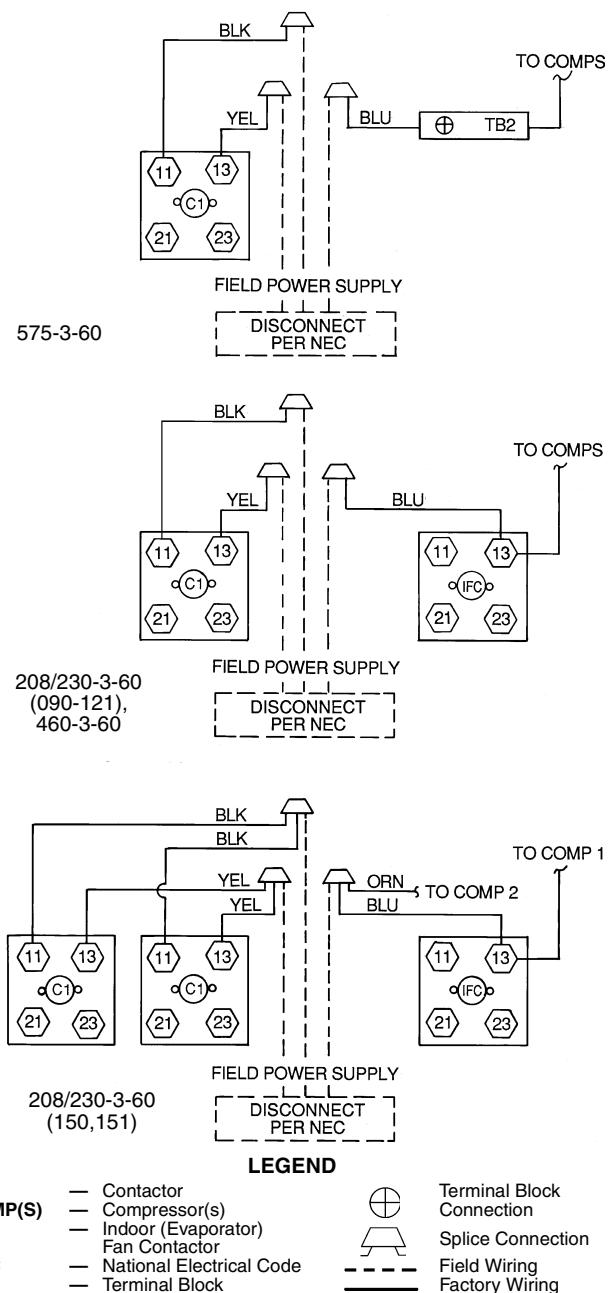

Fig. 8 — Power Wiring Connections
2. Install power wires to terminal connections as shown in Fig. 8.